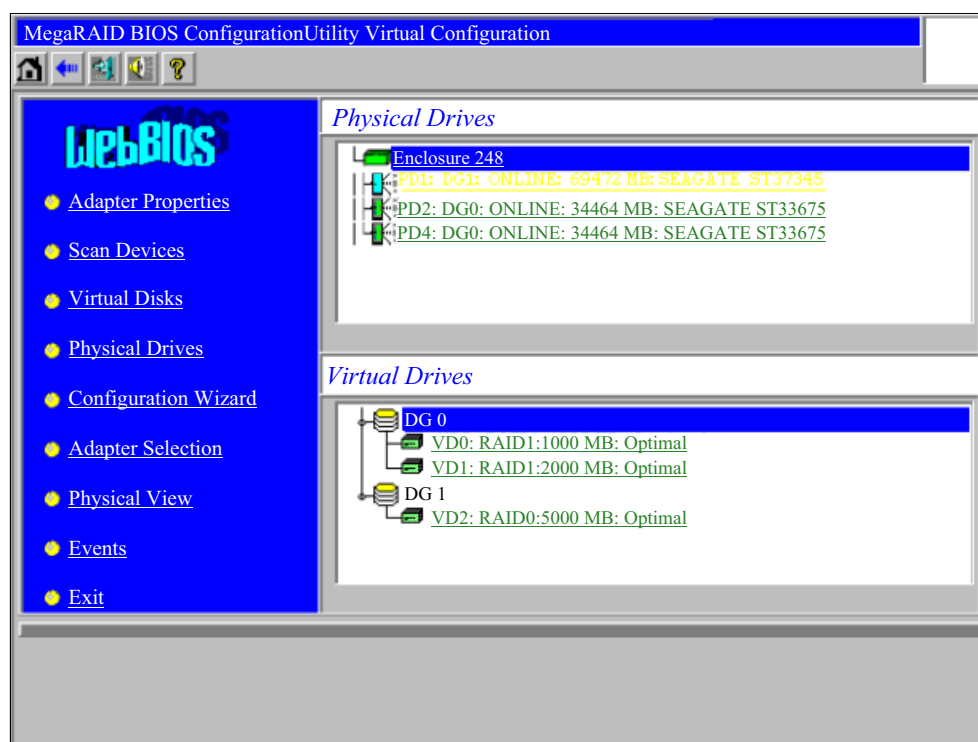
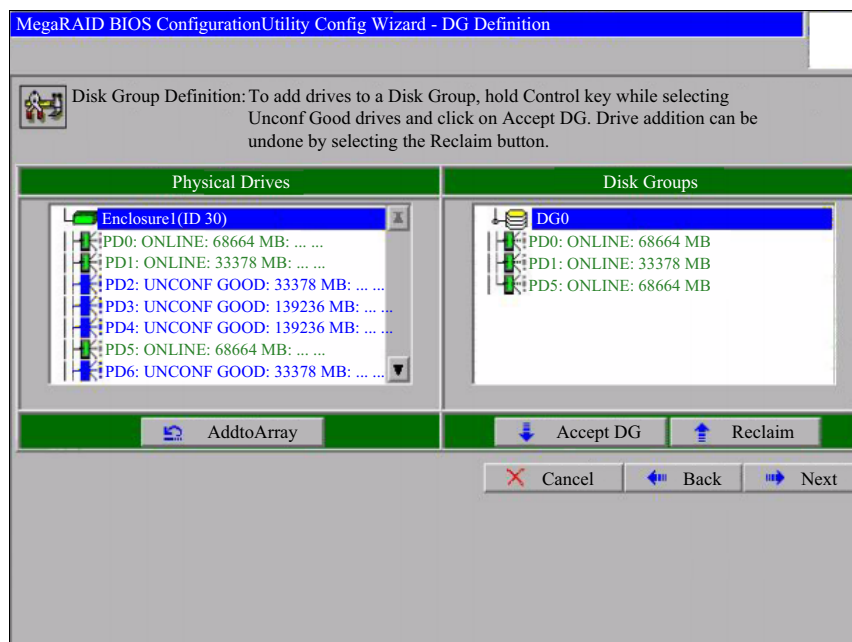

Figure 2-42 MegaRAID BIOS Configuration Utility Virtual Configuration interface
Figure 2-43 MegaRAID WebBIOS Configuration wizard
The WebBIOS utility shows the physical and virtual devices and provides you a graphical display to view and configure RAID. The WebBIOS interface is shown in Figure 2-42.
Two virtual drives are available with RAID-1 and RAID-0 enabled separately, as shown in Figure 2-42. By clicking the icons on the left side of the window, you can obtain more information about these drives.
1. Click **Configuration Wizard** in the left navigation window of the MegaRAID BIOS Configuration Utility Virtual Configuration interface, as shown in Figure 2-42 on page 44. The Configuration wizard opens, as shown in Figure 2-43.